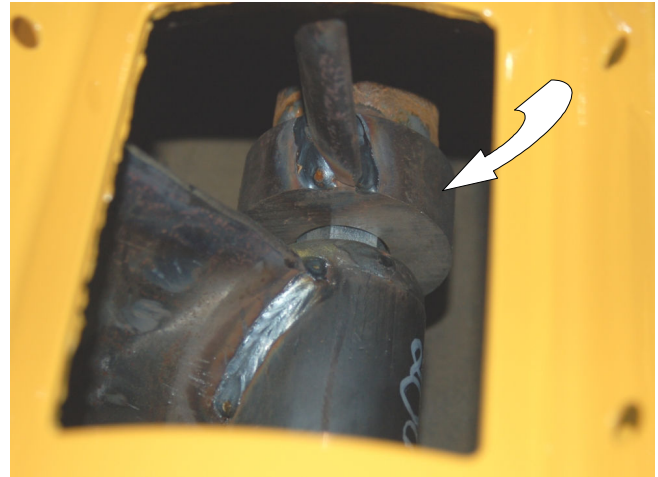

Fig. 43 BEARING REPLACEMENT
6. Replace the hanger bearing that has failed. See fig. 43. **Use only genuine Sheyenne/Westgo replacement parts.**